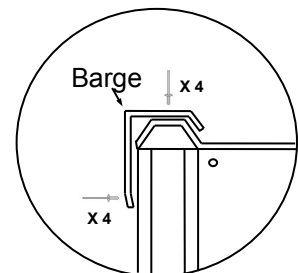

fig.3
- Rivet the Barge Flashings to the roof and the side wall, using four rivets on top of barge and four into the side (**fig.3**).